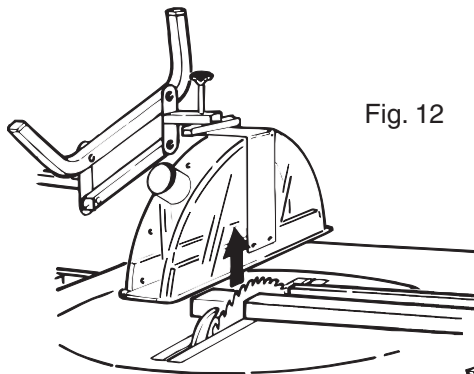

Fig. 12
- A** Place workpiece against fence, and raise the blade to make cut Fig. 12.